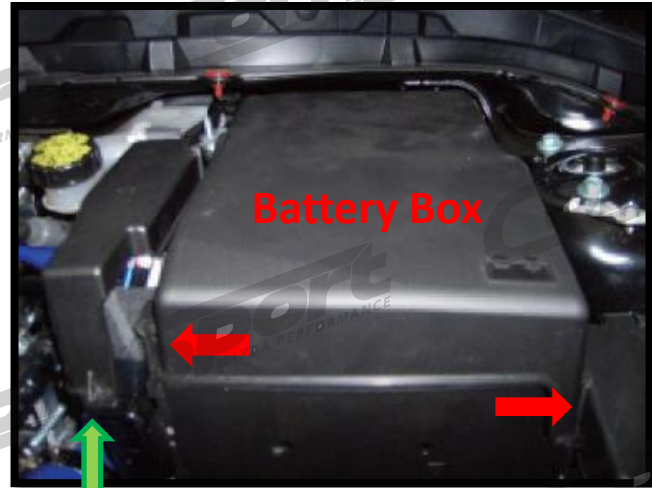

Figure 2a
- a) **Remove the battery box cover** . The cover is held on with two clips (shown with **red arrows** in **Figure 2a**). Pry the clips outward by hand and lift the front of the lid off of the box.